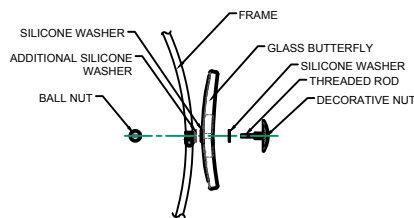

FIGURE-04
6. Remove a small portion of glass (See Figure -04) near the lamp socket where a hand can be easily fit inside the fixture. Install the lamps. (type-B lamp)